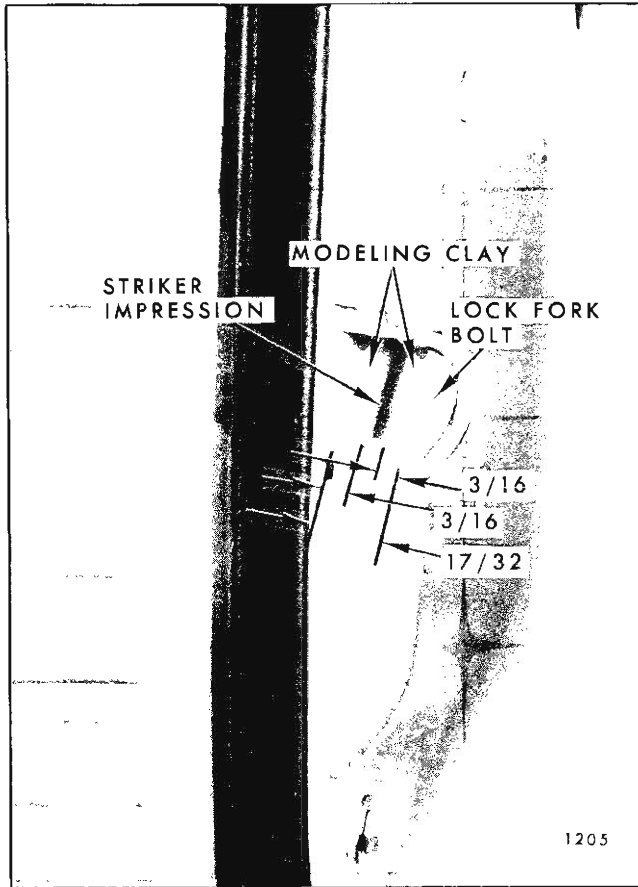

Fig. 1D30—Door Lock Striker Engagement
3. To install, reverse removal procedure. Make certain striker is positioned within pencil mark. Also, that paint protecting plastic washer is installed (Fig. 1D29).